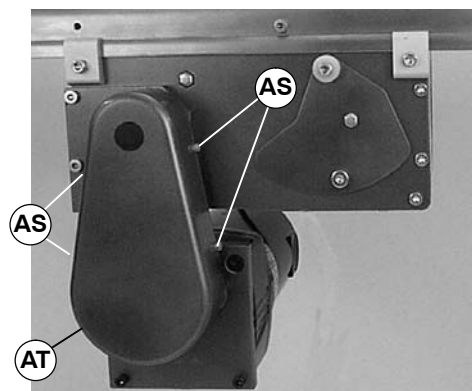

Figure 24
NOTE: Figures 24 & 25 show a vertical mount in the A1 position with a parallel shaft gearmotor. Horizontal mount, D1 position and/or 90° gearmotor mounting is similar.
3. Remove four (4) screws (AS of Figure 24) and remove cover (AT).